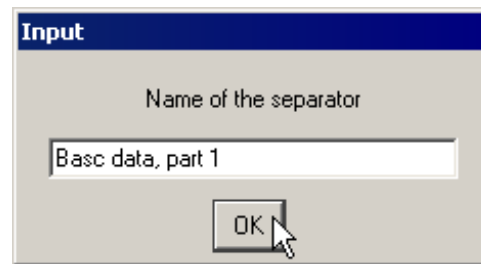

Figure 6.16: Entry of the text for the separator
-  inserts a separator. Via the input window appearing after the click, a text can be entered for the separator ($\hookrightarrow$ fig. 6.16). The separator will be labelled with this text. When no text is entered, a separator will be generated without a text. To delete a separator, click .